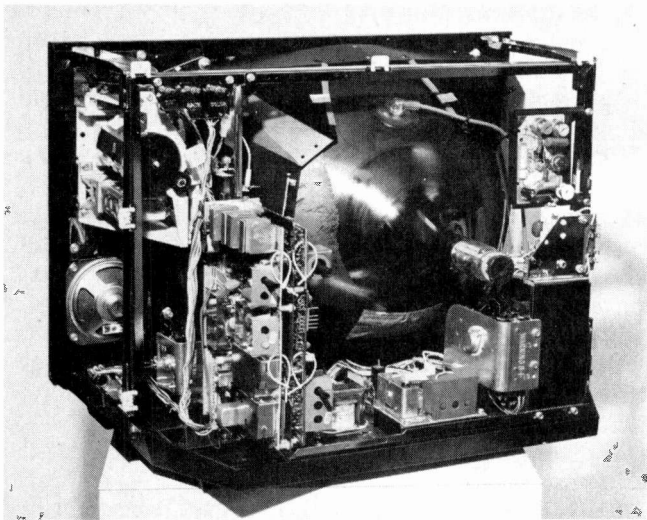

Fig. 1—Rear view of General Electric's 10-inch (diagonal) YC modular color TV chassis.
■ General Electric's 1976 Color TV line consists of three basic chassis types. The MB-2 and MC-2 chassis are employed in the large screen 25-inch (measured diagonally) color TV consoles. The YA and YC chassis shown in Fig. 1, are used in the 13-, 17-, and 19-inch (measured diagonally) color TV receivers. The 10HE chassis is retained in the new line and is used with small screen color TV portables.